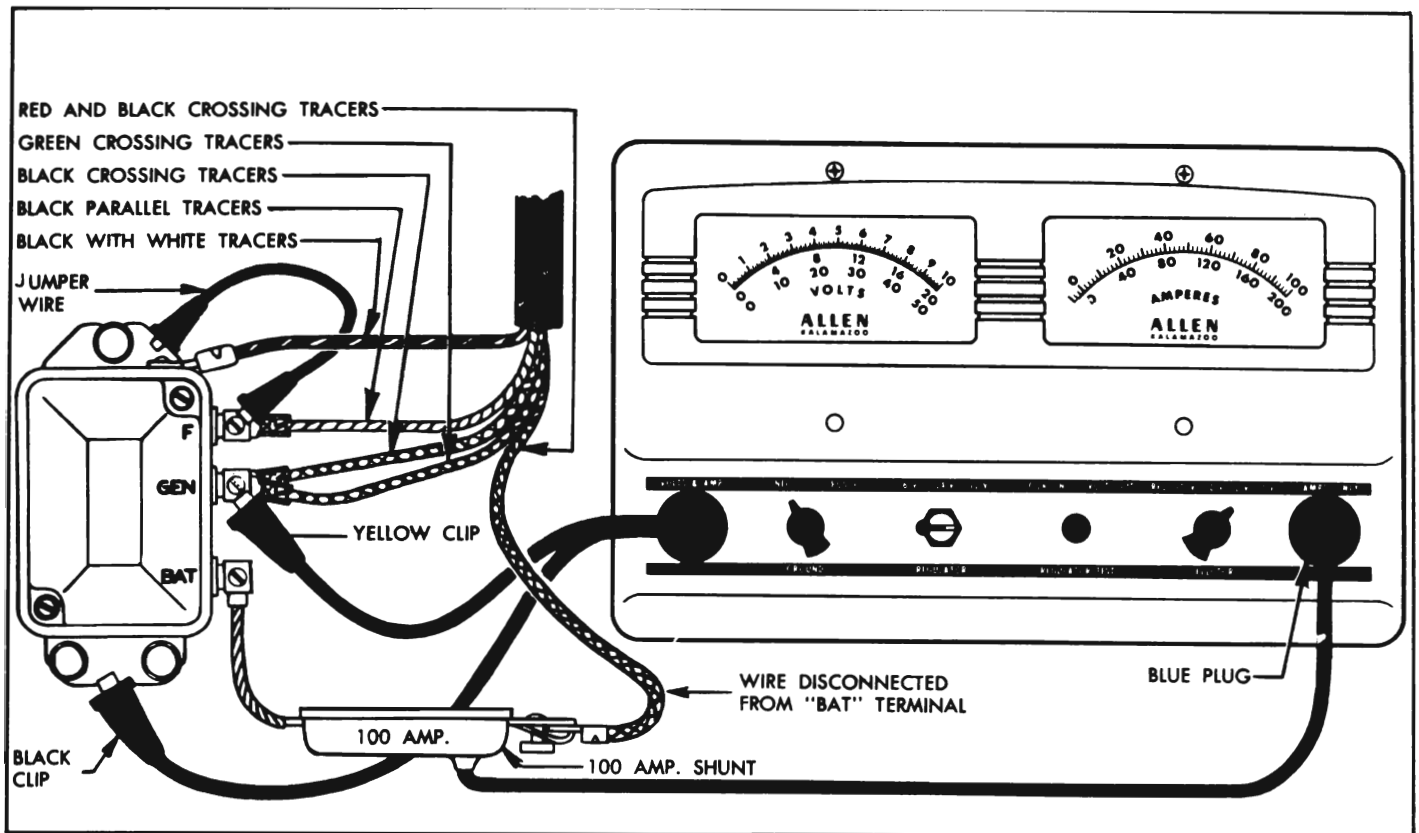

Figure 10-17—Cutout Relay Test Connections—Fixed Resistance Method
3. Disconnect wire from regulator terminal marked "BAT" and attach flexible lead of 100 AMP. SHUNT to the "BAT" terminal of regulator. Attach the disconnected battery wire to opposite end of the SHUNT. See figure 10-17.
4. Insert RED plug of voltmeter lead into "VOLTS & AMPS" socket of tester, connect YELLOW clip of lead to regulator terminal marked "GEN", and connect BLACK clip to ground on base plate of regulator. See figure 10-17.
(a) Reconnect the 100 AMP. SHUNT as shown in figure 10-17, but do not connect the jumper wire nor the voltmeter lead (yellow and black clips).